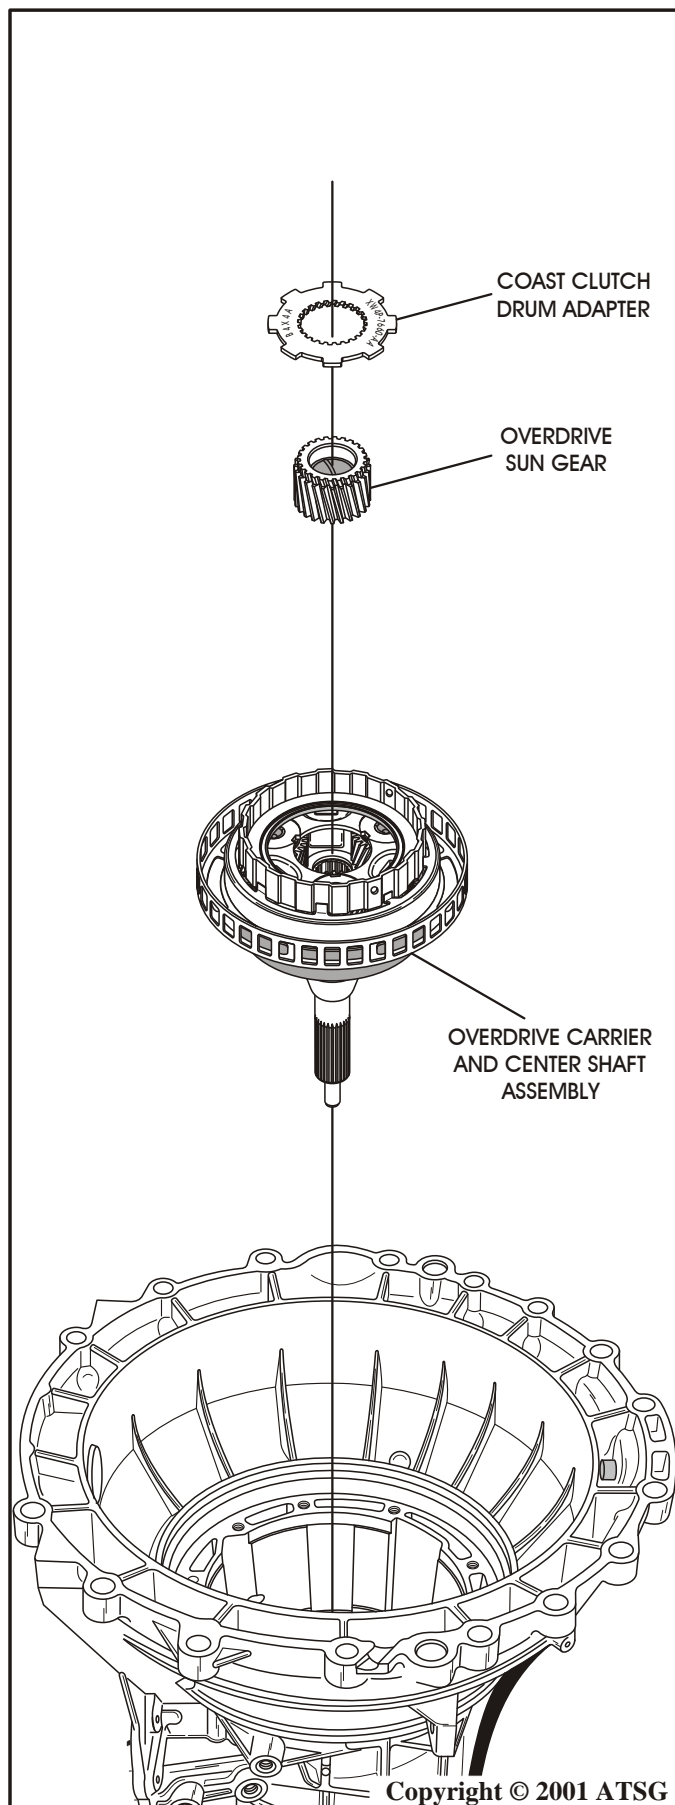

Figure 162
46. Install the pre-assembled overdrive carrier and center shaft assembly, as shown in Figure 162, ensuring that it is splined into the forward clutch housing and fully seated.
47. Install the overdrive sun gear into overdrive carrier, as shown in Figure 162, by rotating into position.
48. Install the coast clutch housing adapter plate on overdrive sun gear, as shown in Figure 162, and ensure that it is fully seated.